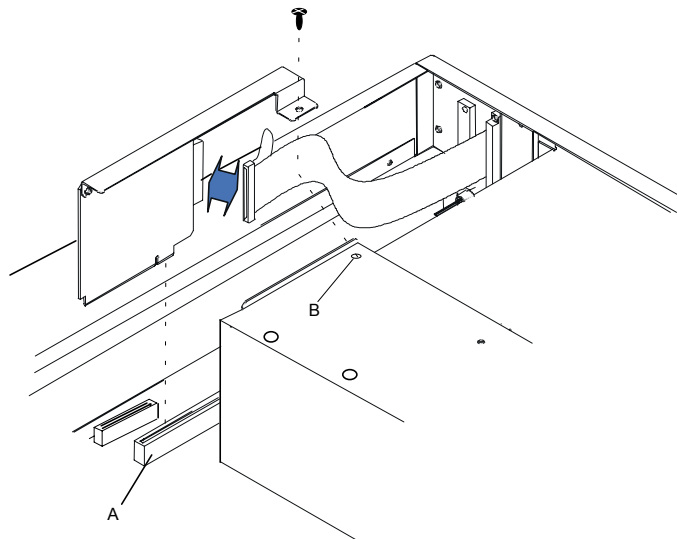

Figure 4-78. Install the 2-Channel SCSI Board
- 15.** Connect the secured internal SCSI cable to the option board. Verify that no connector pins of the cable are bent. See Figure 4-78.
- 16.** Position the option board with its SCSI cable connector facing toward the rear of the cabinet and insert the board into the slot. Ensure it is firmly seated. See Figure 4-78, A.